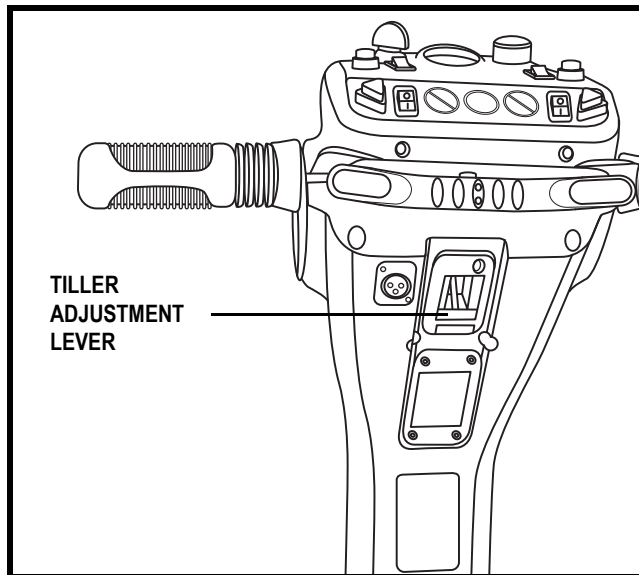

Figure 10. Tiller Adjustment
1. Lift the tiller adjustment lever. See figure 10.